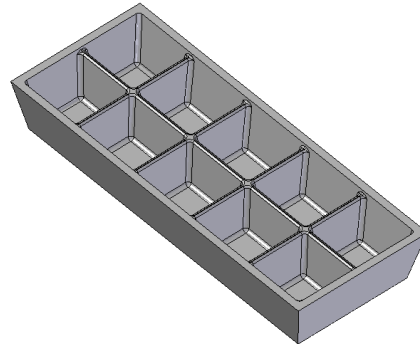

Figure 8-70 Model after adding the rounds
- Add rounds to the sharp edges of the model, refer to Figure 8-70.
2. Next, add a round of radius 0.5 to the top face of the web network. The model, after adding the rounds, is shown in Figure 8-70.